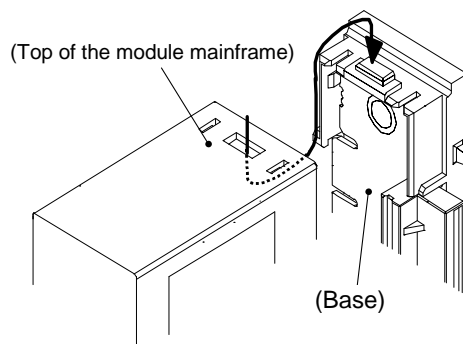

Fig 2: Mounting the module mainframe
5. Mount the module on the base. (Fig.2)